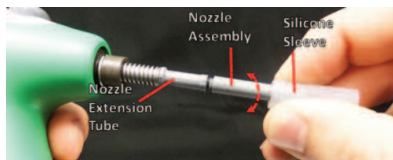

Figure 4: Unscrewing nozzle assembly from extension tube
- Remove the nozzle assembly by sliding the provided silicone sleeve over the nozzle and then unscrewing the nozzle from the extension tube (see Figure 4).
15. After 30 minutes, reattach the nozzle assembly using the silicone tube (see Figure 4).